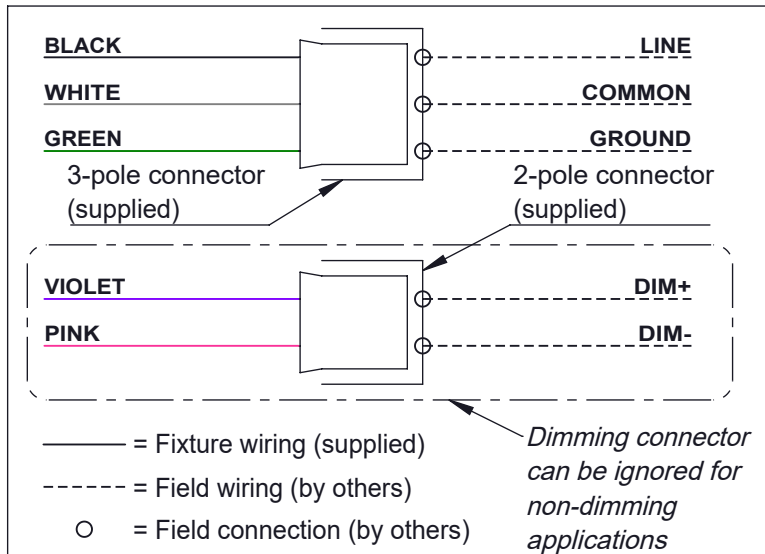

Figure 5
6. Make all necessary electrical connections according to the field wiring diagram (Fig. 5). All wiring, including dimming wiring, must have insulation rated for the maximum rated voltage of the luminaire (300V).